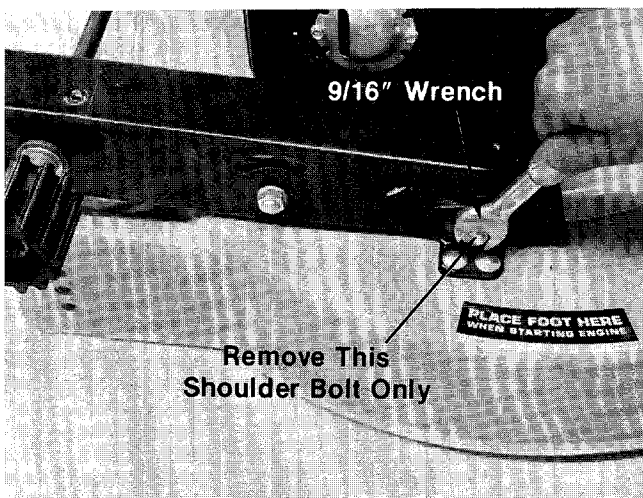

FIGURE 24.
6. Remove the shoulder bolt, lock washer and hex nut from the belt cover. A 9/16" wrench is required. See figure 24.